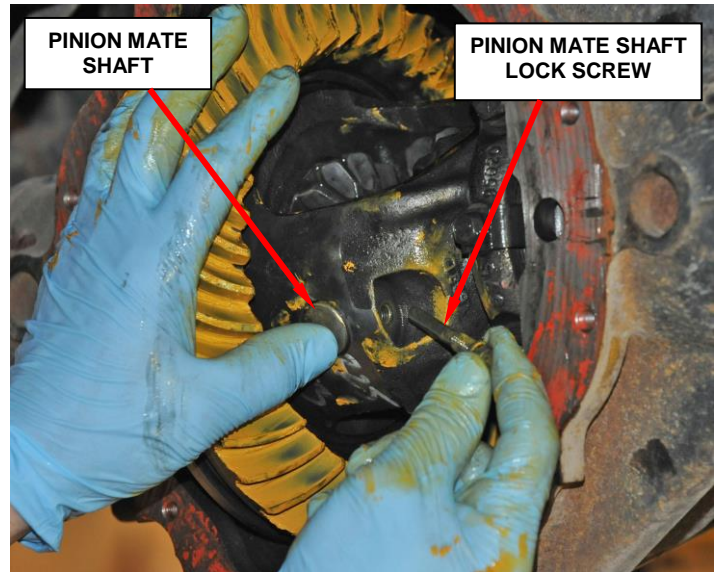

Figure 45 – Pinion Mate Shaft Lock Screw
- Insert the pinion shaft into the differential case and through the thrust washers and differential pinions (Figure 45).
- Align the hole in pinion mate shaft with hole in the differential case and install the lock screw with Mopar threadlocker (P/N 04318031) on the threads. Tighten the lock screw to 8 ft. lbs. (11 N·m) (Figure 45).